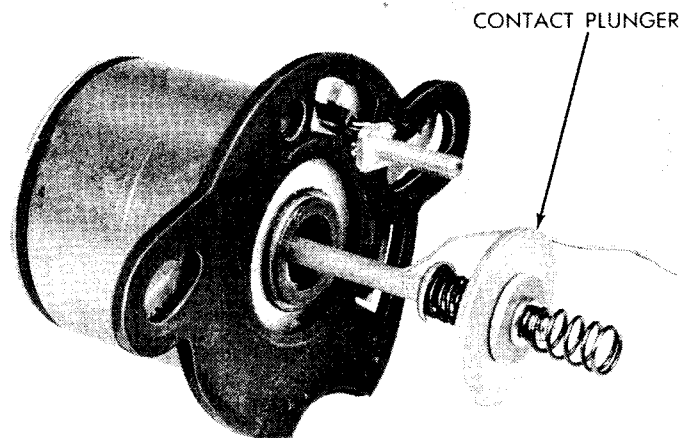

Fig. 12—Removing Contact and Plunger
(13) Remove solenoid contact and plunger assembly from solenoid, (Fig. 12).